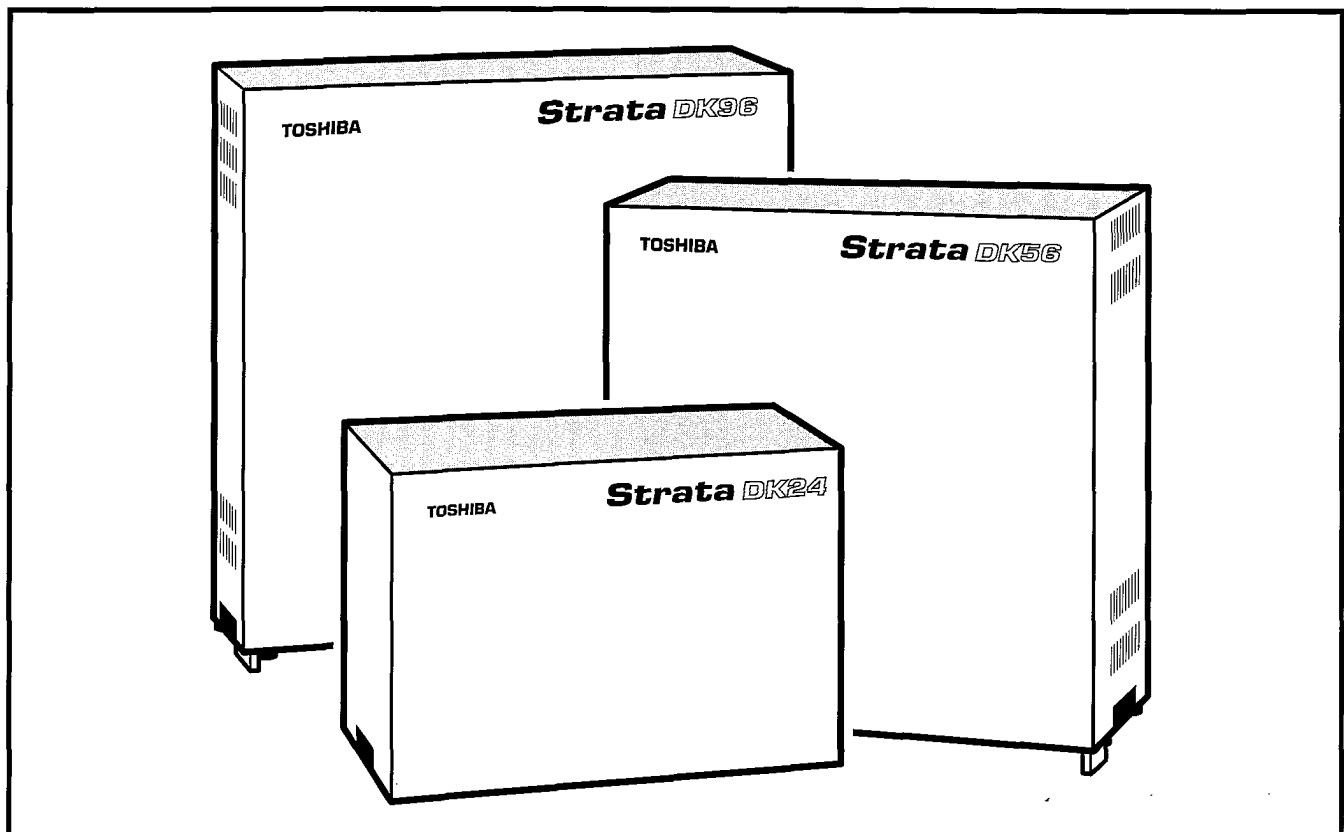

FIGURE 2-1—DK24/56/96 KSUs
1.11 A STRATA DK system consists essentially of a key service unit (KSU) cabinet (Figure 2-1) which houses the power supply and a number of PCBs. The quantity and type of PCBs, telephones, and peripherals installed depends on the user's requirements. The primary differences between models are KSU sizes, PCB capacities, and power supplies.